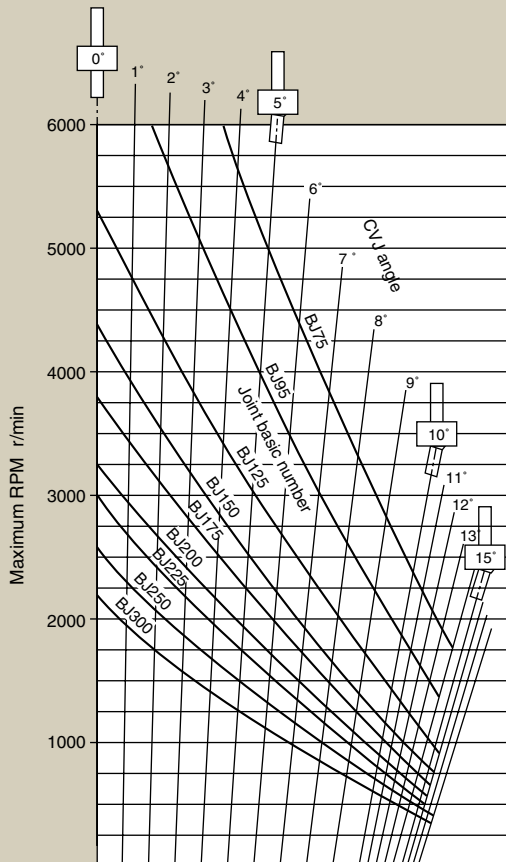

Fig. 9 CVJ angle versus allowable RPM
1. Considering durability of the boots, check that the RPM in Fig. 9 is within the joint angle limitation.